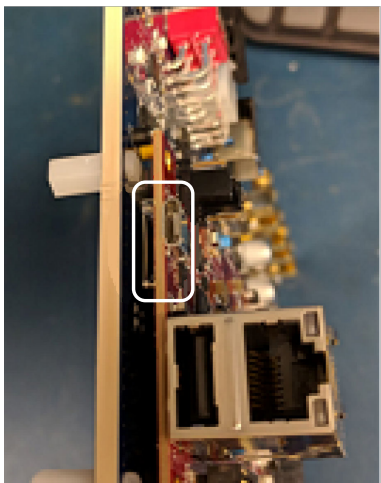

Figure 4. MicroSD Card Slot in MicroZed Board
2. Insert the **Apollo v1.9** microSD card into the slot in the MicroZed board and ensure to face the contacts of the microSD card upwards. See Figure 4 for additional details.